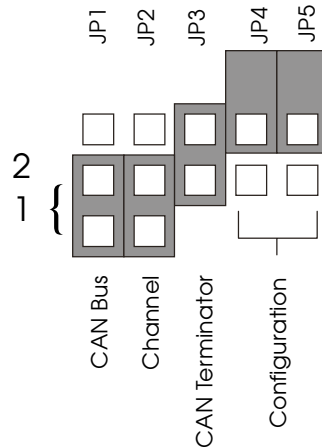

Figure 44: Jumper Settings
1. Make sure that jumpers JP1 and JP2 on the *RelayNode8* are fitted in position 1 (CAN1), as shown in Figure 44.
2. Make sure that jumper JP3 on the *RelayNode8* is fitted, as shown in Figure 44.
3. Make sure that jumpers JP4 and JP5 on the *RelayNode* are not fitted. Refer to Figure 44.
When connecting CAN Peripherals to a *NextMove PC* controller, CAN Bus channel 1 must be selected on the CAN Peripheral by fitting jumpers JP1 and JP2 to position 1, as shown in Figure 44.